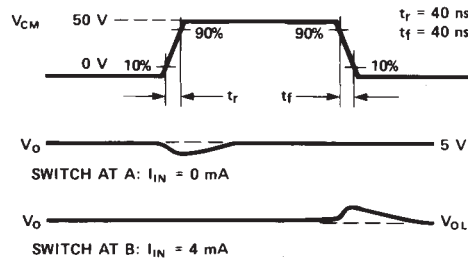

Figure 8. Test Circuit for Common Mode Transient Immunity and Typical Waveforms.
- Common mode transient immunity in Logic High level is the maximum tolerable  $dV_{CM}/dt$  of the common mode voltage,  $V_{CM}$ , to ensure that the output will remain in a Logic High state (i.e.,  $V_O > 2.0\text{ V}$ ). Common mode transient immunity in Logic Low level is the maximum tolerable  $dV_{CM}/dt$  of the common mode voltage,  $V_{CM}$ , to ensure that the output will remain in a Logic Low state (i.e.,  $V_O < 0.8\text{ V}$ ). See Figure 8.